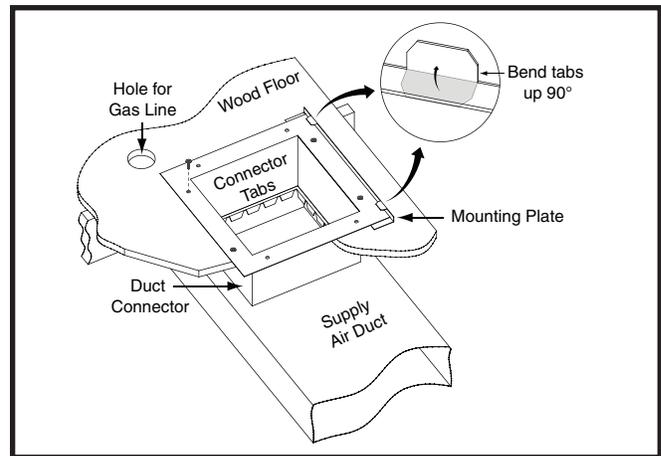

Figure 14. Duct Connector Installed
- e. Install the mounting plate (Figure 14) under the back side of the duct connector. Align the screw holes in both components.